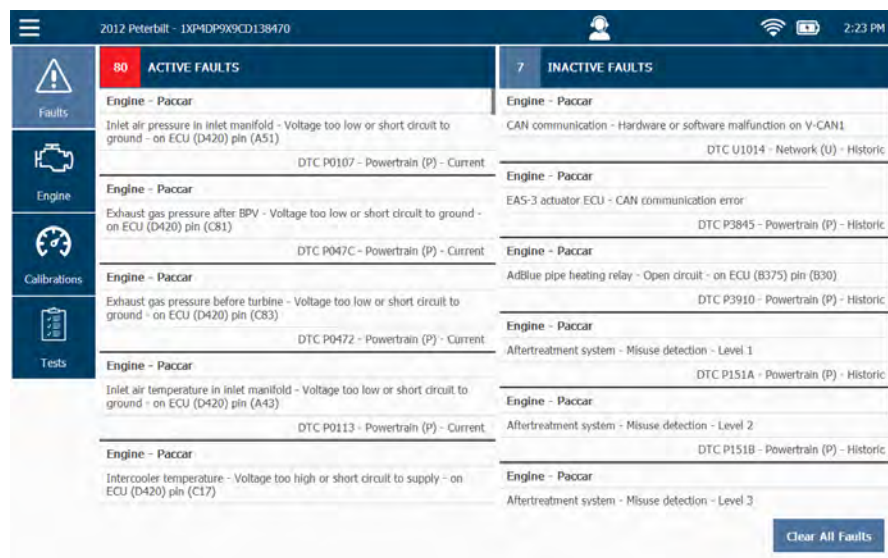

Figure 10.1 Diagnostics Menu
- Touch the **Back Arrow** to go back to the list of faults (Figure 10.1), and select a different fault to view Repair-Connect information for that fault.
- Touch the **Back Arrow** twice to go back to the list of faults (Figure 10.1).
- Touch the **Back Arrow** to go back to the list of faults (Figure 10.1).